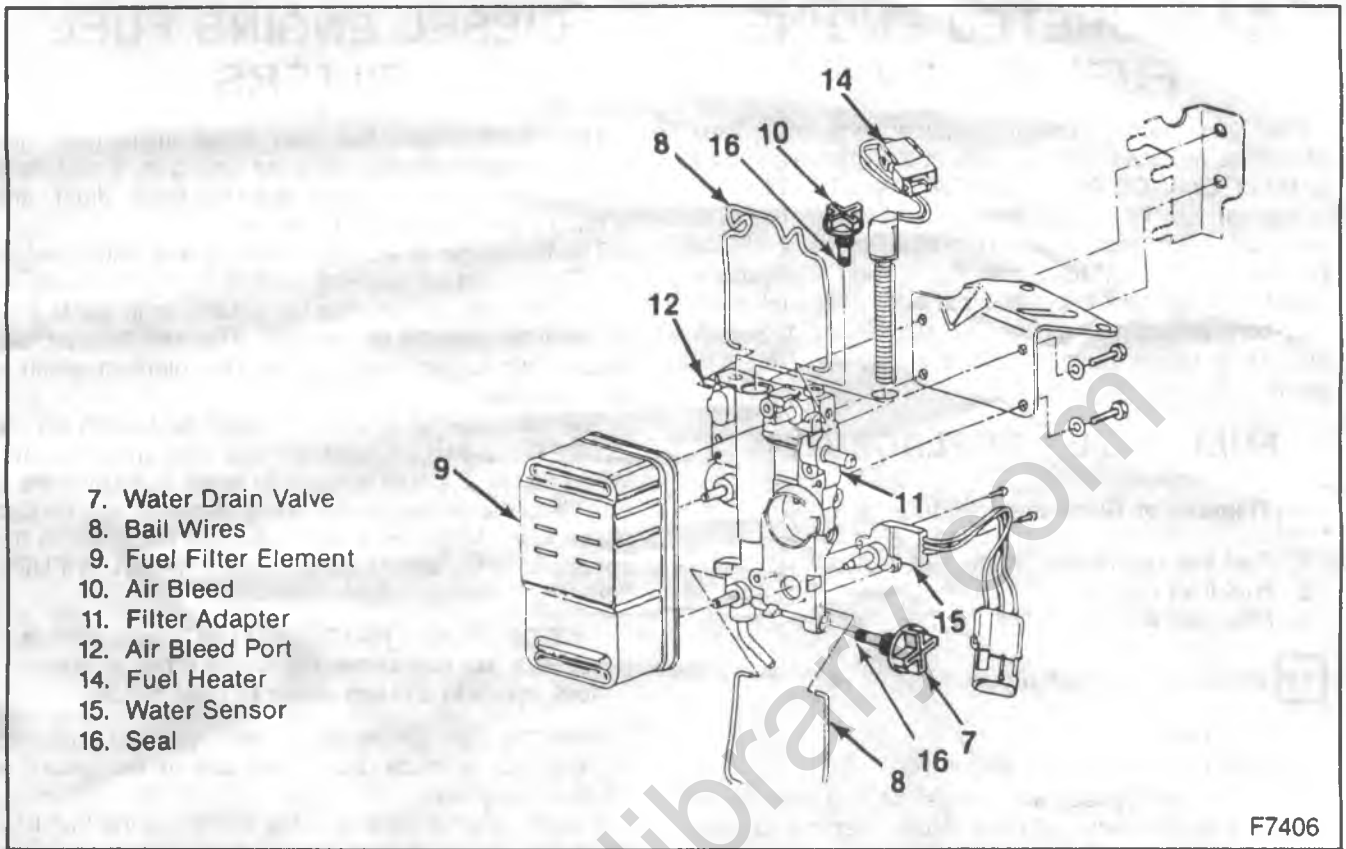

Figure 3—Diesel Fuel Filter
The diesel engine fuel filter is an inline type filter which combines several different functions. It acts as a filter, water separator, water detector, water drain, and a fuel heater (figures 3, 4 and 5).
- Open the drain valve (7) two to three turns (figure 3).
- Stop the engine and close the drain valve (7).
↔ Remove or Disconnect (Figure 3)
→→ Install or Connect (Figure 3)
↔ Install or Connect (Figure 3)
All component parts of the fuel filter assembly are serviceable. These components include the filter adapter, fuel heater, and the water sensor (figure 3).